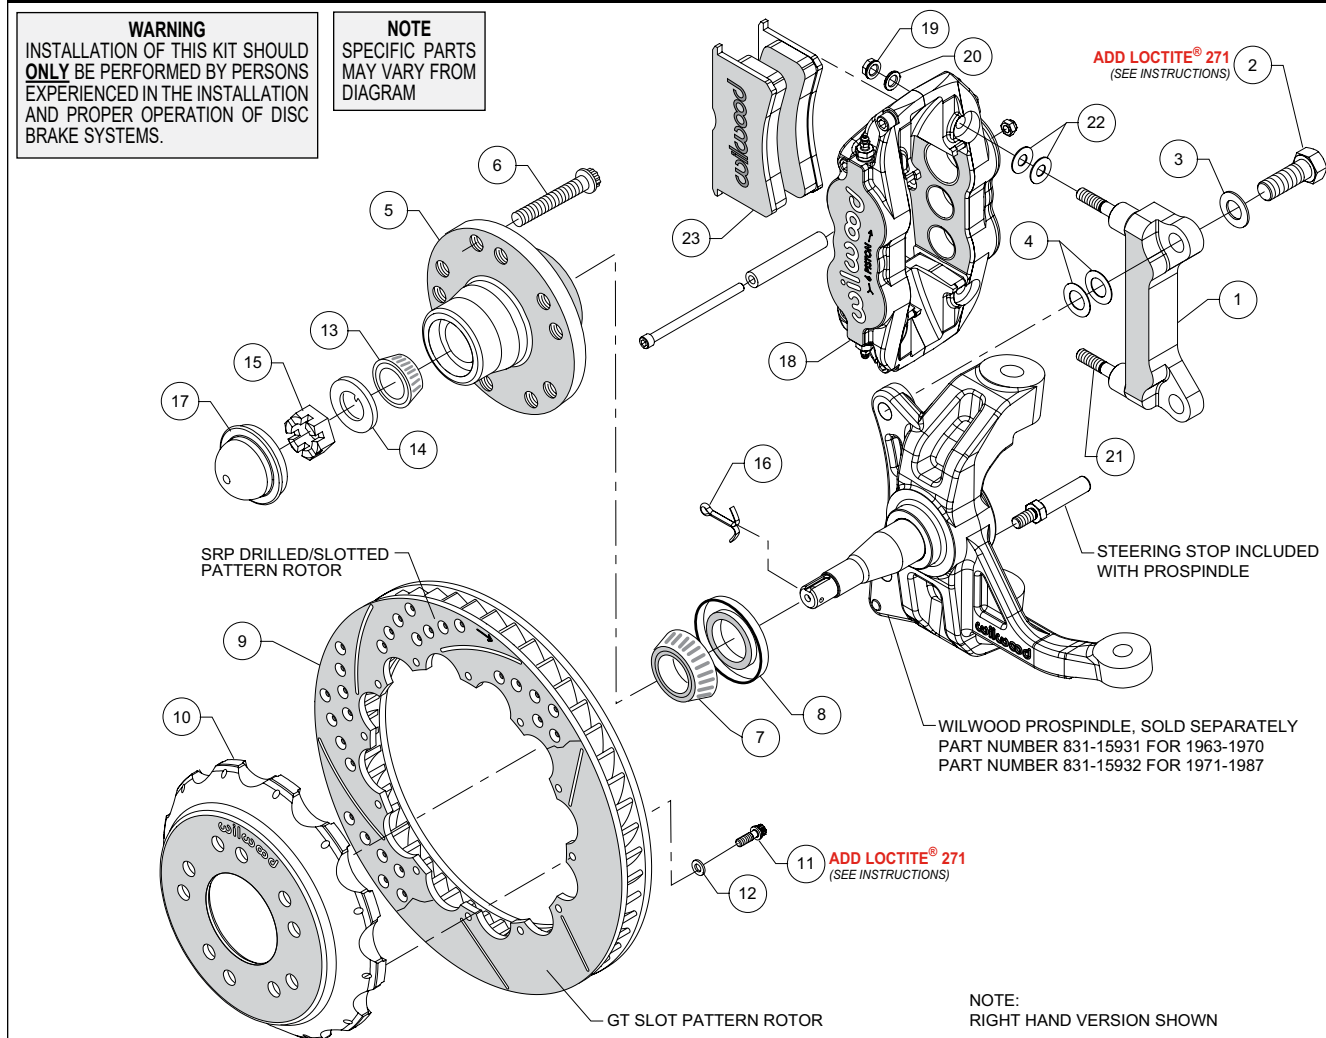
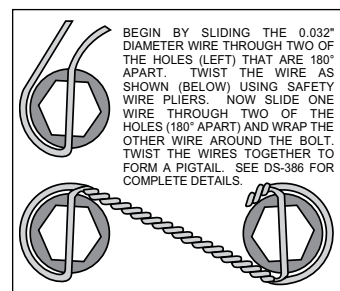

Figure 1. Typical Installation Configuration
Figure 3. Safety Wire Diagram
NOTE: Numbers in parenthesis refer to the parts list and Figure 1 on the preceding pages.
- Install the steering stop bolt (included with the ProSpindle) into the spindle as shown in Figure 1 and Photo 1. Torque to 25 ft-lbs.
- The caliper mount bracket (1) should initially be installed with clean, dry threads on the mounting bolts. Orient the bracket, as shown in Figure 1 and Photo 2, and install using bolts (2) and washers (3). Initially place two .024" thick shim (4) on each bolt between the bracket and spindle, Figure 1. Temporarily tighten the mounting bolts. **NOTE:** The bracket must fit squarely against the mount bosses on the spindle. Inspect for interference from casting irregularities, machining ridges, burrs, etc. Later, after the caliper alignment has been checked, the mount bolts will be secured using red *Loctite*® 271.
- Install wheel studs (6) into the hub (5), Photo 3. Torque to 77 ft-lb. **NOTE:** There are two five lug patterns in the hub (5 x 4.75 and 5 x 5.00). Ensure the correct hub stud pattern is being used to fit the wheel application.
- Pack the large inner bearing cone (7) with high temperature disc brake bearing grease (available from your local auto parts store) and install into the backside of the hub (5), Photo 4.
- Install the grease seal (8) by pressing into the backside of the hub (5), flush with the end of the hub, Photo 5.
- Pack the small outer bearing cone (13) with high temperature disc brake bearing grease and install into hub (5). Slide the hub assembly onto the spindle. Secure using spindle washer (14) and spindle nut (15), Photo 6. Adjust bearings per OEM specifications. Install a new cotter pin (16).
- Press the dust cap (17) into the hub (5). **NOTE:** Do not hammer center of cap. Install using outer flange only.
- Orient the rotor (9) and the hat (10) as shown in Figure 1 and Photo 7. Attach rotor to hat using bolts (11) and washers (12). Apply red *Loctite*® 271 to the bolt threads and torque to 155 in-lb using a criss-cross pattern. For an added measure of security, the bolts may be safety wired using standard 0.032 inch diameter stainless steel safety wire as shown in Figure 3. Refer to Wilwood's data sheet DS-386 (available at www.wilwood.com/Pdf/DataSheets/ds386.pdf) for complete safety wire installation instructions.
- Slide the hat/rotor assembly (10 and 9) onto the hub (5), Photo 8. **NOTE:** The hat must fit flush against the hub face or excessive rotor run out may result. Install three lug nuts (finger tight) to keep the hat/rotor assembly in place while continuing with the installation, Photo 8.
- NOTE:** This kit contains distinct right and left hand calipers that must be mounted in a specific direction, as described below. Initially place two .035" thick shims (22) on each stud (21) between the caliper and the bracket, as shown in Figure 1 and
Photo 9. Mount the caliper (18) onto the bracket (1) using lock nuts (19) and washers (20), Figure 1. Temporarily tighten the lock nuts. Ensure that the caliper is mounted so that the largest pistons are at the rotor exit end of the caliper, in relation to the direction of rotor rotation. View the rotor through the top opening of the caliper. The rotor should be centered in the caliper, Photo 10. If not, adjust by adding or subtracting shims (4) between the bracket and the spindle. Always use the same amount of shims on each of the two mounting bolts. Once the caliper alignment is correct, remove the bracket mounting bolts one at a time, apply red *Loctite*® 271 to the threads, and torque to 140 ft-lb.